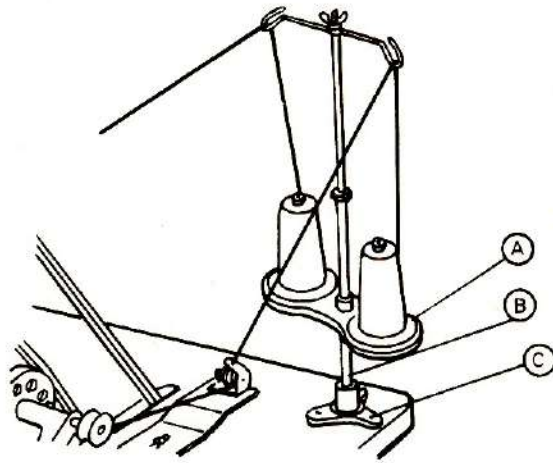

Fig.7
(8) To mount the thread stand (fig 7)
The position of the thread stand is shown in fig 7. Mount the thread stand at the right corner of the machine table and it does not touch the machine head when the latter is turned down, then tighten the wood screw (C).